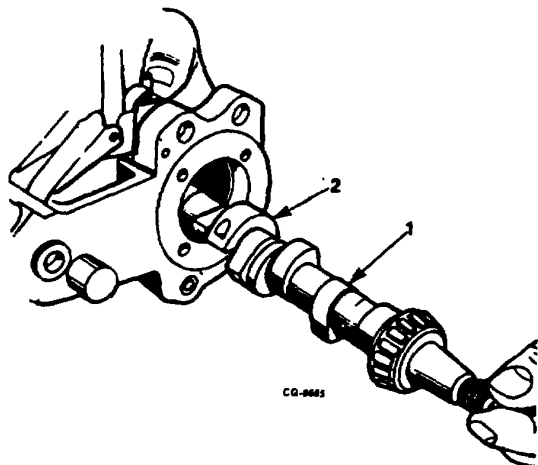

Figure 22. Removing Camshaft
10. Remove camshaft (Figure 22) with center bearing and both end bearings out front of pump. A slight tapping on rear of shaft with soft hammer is permitted.